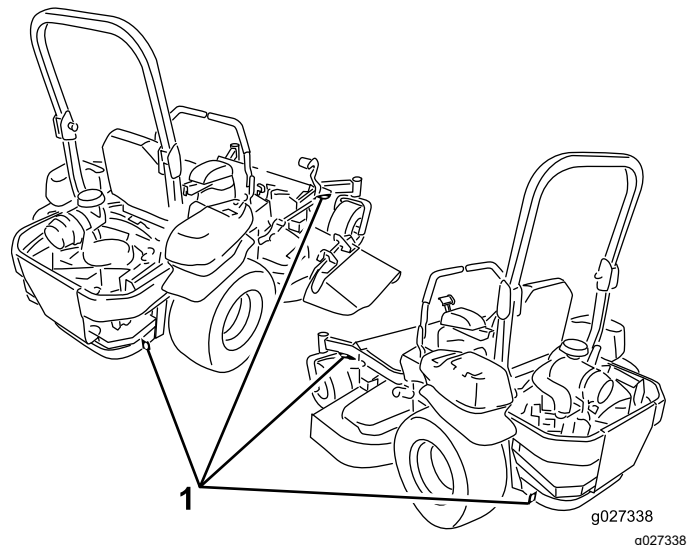

Figure 42
6. Tie down the machine near the front caster wheels and the rear bumper with straps, chains, cable, or ropes (Figure 42). Refer to local regulations for tie-down requirements.